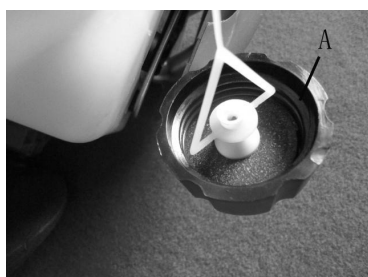

Fig.16
NOTE: Keep vent (A) on fuel cap clean of debris (Fig.16).